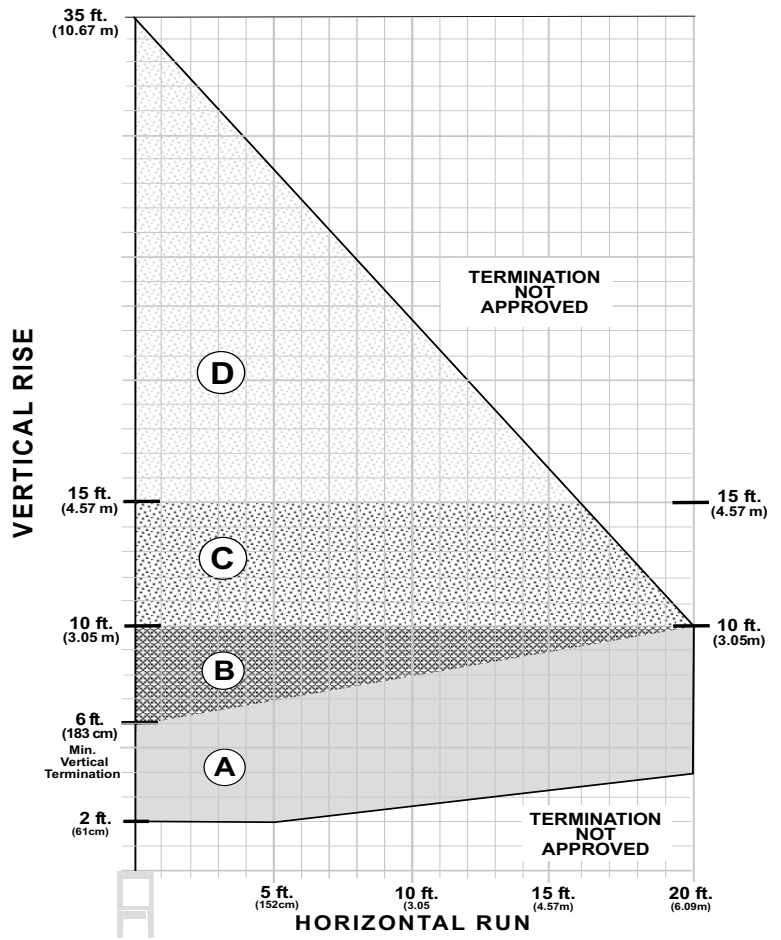
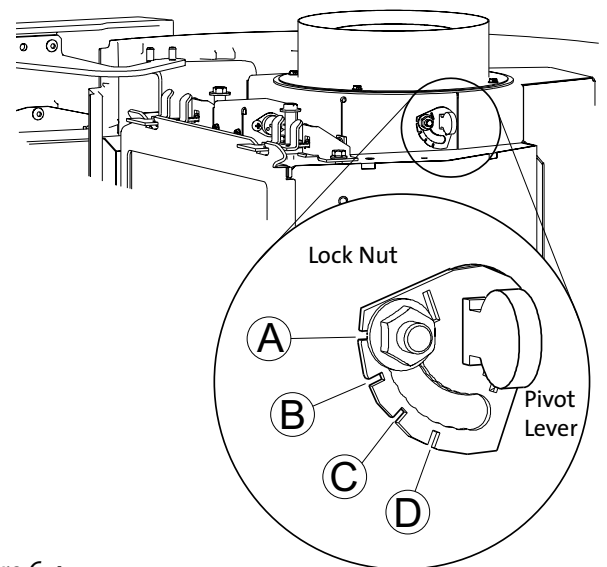

Figure 6.2.
Figure 6.4.
The Exhaust Restrictor plate is located within the firebox exhaust outlet. It is adjusted by rotating the dial on the right side of the outlet within a range beginning at the factory-set, fully open position (no restriction) to a fully restricted position. See Figs. 6.2 and 6.3. The Minus (-) and Plus (+) signs on the dial relate to degrees of restriction, from zero to approximately 70%. The four, lettered positions correlate to the termination zones (A,B,C,D) diagramed in figure 6.4. Use the diagram to determine the degree of restriction and shutter setting that correlates to your vent configuration.
Determine the dial notch position appropriate to your vent configuration as designated in Fig 6.2. Pivot the dial to align the lock nut with that notch.
- The termination should fall within the shaded areas of the grids depicted in the Vent Matrix, fig. 6.2, page 10.
- **Maximum Horizontal run is 20 ft.** (152 cm) See Fig. 6.2 for related termination zone limitations.
- Any horizontal termination must fall within the shaded portion of the vent window matrix shown in fig. 6.2.